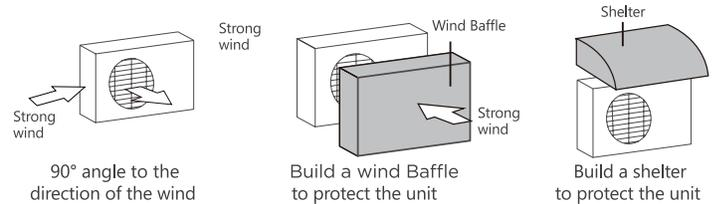

Fig. 2-1: High Wind Installation
Install the unit so that the air outlet fan is at a 90° angle to the direction of the winds. See Fig. 2-1.
1. Select the installation location of the outdoor unit following the installation requirements. To prevent high wind exposure, install the outdoor unit with the air inlet side facing the wall (see Fig. 2-1).